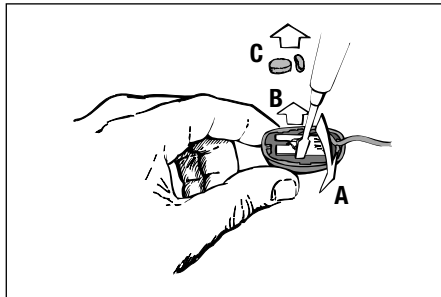

Fig. 9
2. Referring to fig. 9, use a screwdriver to carefully unsnap the circuit board carrying the microphone element. Remove the circuit board.